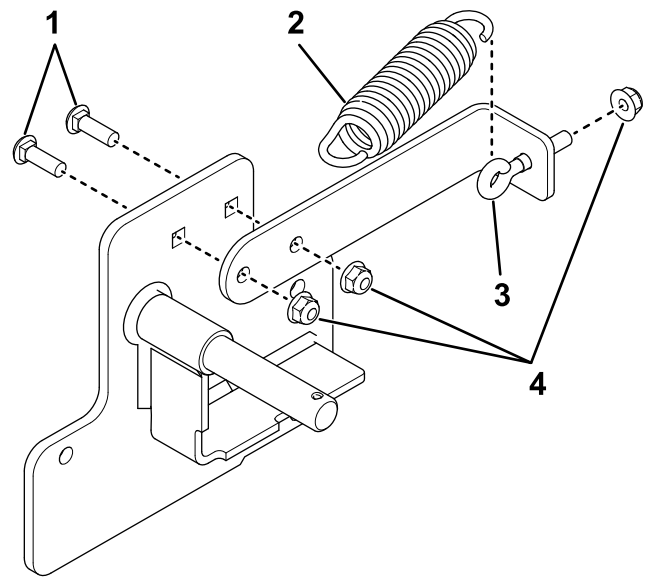

Figure 6
5. Install the spring mount and spring to the other pawl bracket using 2 carriage bolts (5/16 x 1 inch), 3 locknuts, and 1 eye bolt (Figure 6).